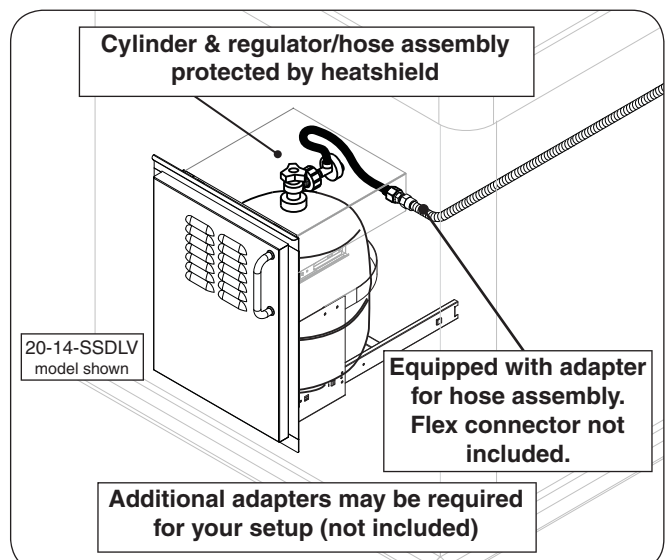

Fig. 13-3 Optional AOG door w/ tank tray
- **AOG offers propane tank door with tank tray models and a propane tank heatshield that rests directly on the tank to meet the cylinder install requirements. Propane tank door with tank tray shown in Fig. 13-3. Contact your dealer for ordering information.**